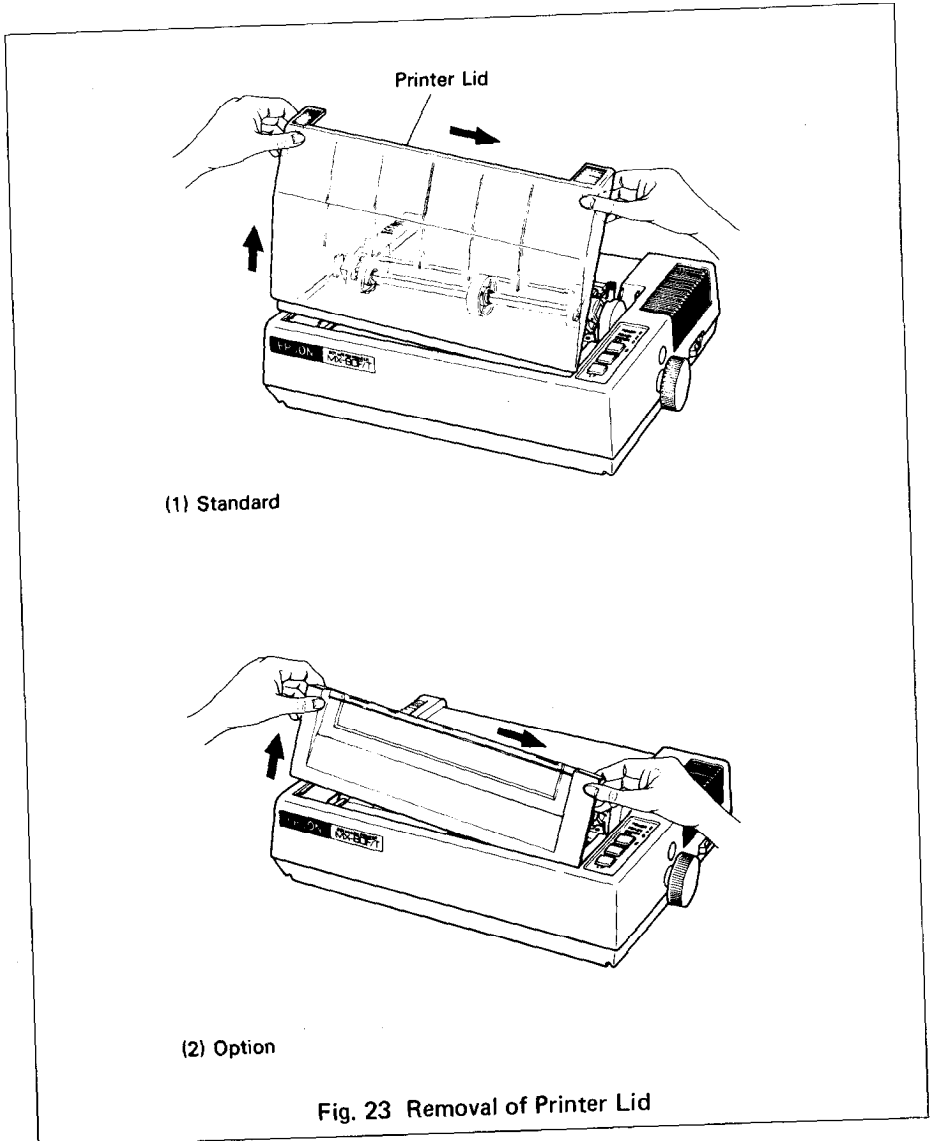

Fig. 23 Removal of Printer Lid
STEP 2. Push the printer lid toward the right and pull up its left side. (See Figs 23 (1) and (2).)
NOTE: The printer lid shown in Fig. 23 (2) is an Optional accessory.